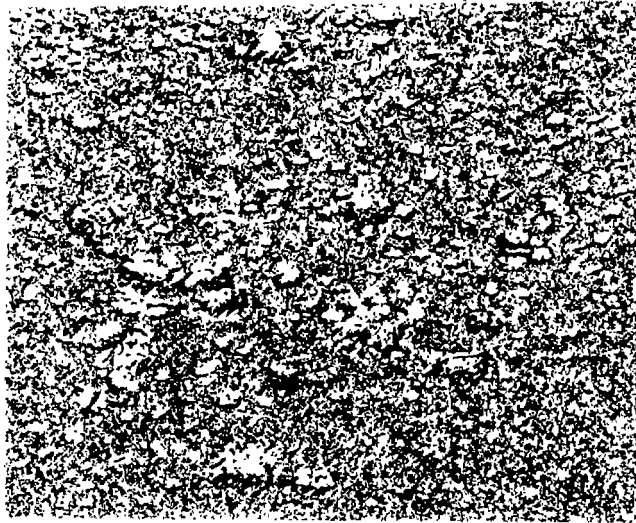

FIGURE 2-9 Paint blistering
(4) Blistering. Although this fault is obvious in appearance, (ie., dome shaped projections or blisters) the cause may not readily be noticed. In any event the blisters will most certainly be retaining harmful agents, such as water vapor or gases, against the substrate. For this reason alone blistered paint should be cleaned down to the substrate and the cause eliminated. Figure 2-9 shows blisters caused by aging of the paint system and corrosion of the substrate.
(9) Figure 2-12 shows a badly flaking paint system that requires cleaning to a suitable substrate and renewal of the paint system. This illustration is a direct extension of Figure 2-9 where the paint was blistered.